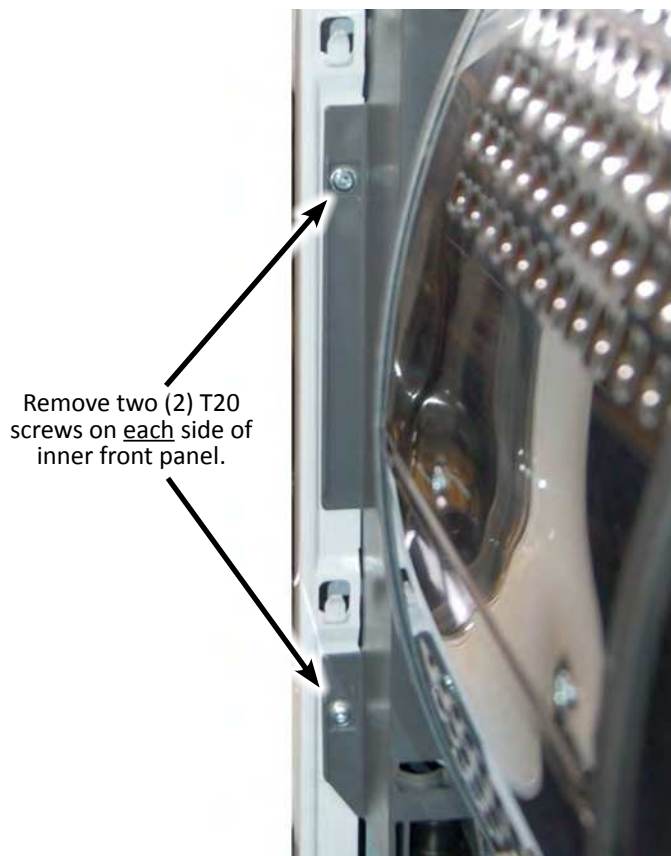

Figure 2
8. Using a T20 Torx driver, remove the 4 inside screws, 2 on each side of the inner front panel. See Figure 2.